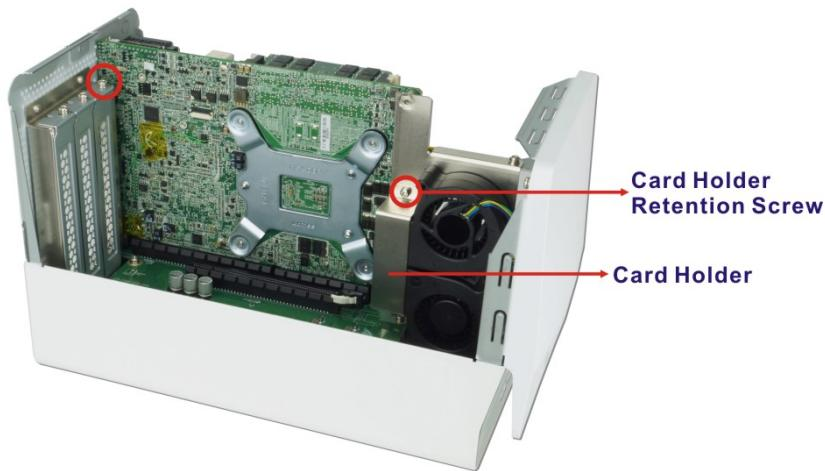

Figure 3-14: Blank Bracket Screw and Card Holder Screw
Step 3: Remove the blank bracket panel on the rear panel of the HTB-200-C236 that aligns with the empty PCIe slot. Save this bracket screw (Figure 3-14).
Step 4: **[PCIe x16 card only]** Remove the card holder by removing the card holder retention screw (Figure 3-14).